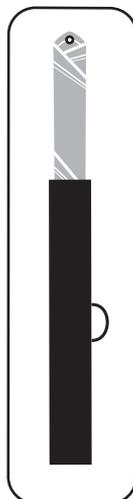

Figure 11: Sleeve end first into bag.
- Insert your sail sleeve-end first into the sail bag (figure 11).